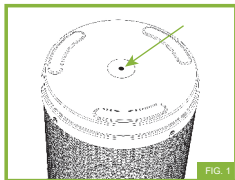

FIG. 1
- 3 Locate and mark the center of the Base. Drill a hole through the center using a drill and 1/2" masonry drill bit. **(FIG. 1)**